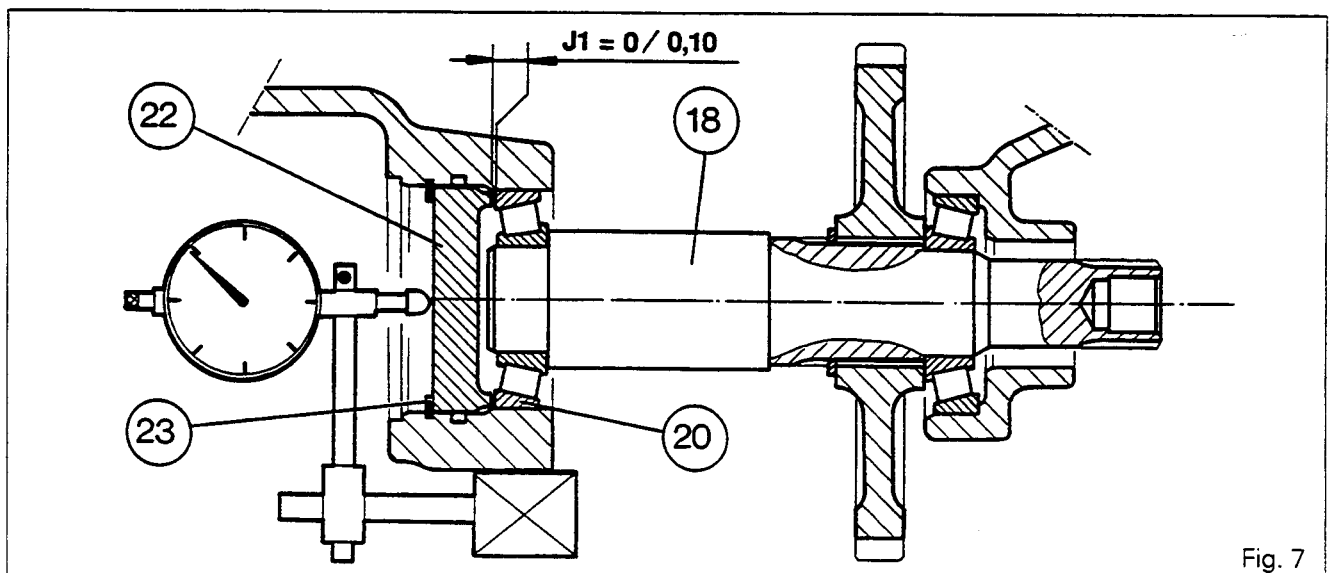

Fig. 7
51. Refit the cup (20), the spacer (22) and the circlip (23).
52. Carry out shimming on the shaft (18) so as to obtain:  $J_1 = 0$  to  $0.10$
53. Place the tip of the dial gauge against the spacer (22) (Fig. 7).